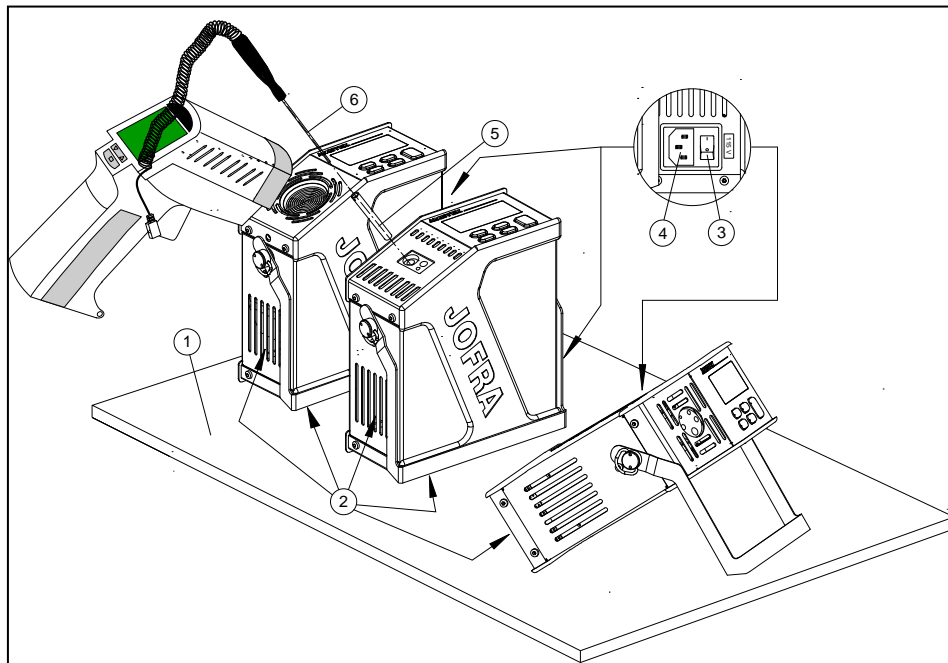

Fig. 1
**When setting up the calibrator, you must...(see fig. 1)**
- ① Place the calibrator on an even horizontal surface in the spot you intend to use it.
- ② Ensure a free supply of air to the fan.
- ③ Check that the voltage shown on the label above the power control switch is identical to the mains voltage (ETC-400 A/R only). If not, the instrument should be returned to AMETEK Denmark A/S or the distributor for replacement.
- ④ Check that the earth connection for the instrument is present and attach the cable.
- ⑤ Select an insertion tube with the correct bore diameter and place it in the largest bore of the instrument (ETC-125 A only) or use one of the bores in the well that best suits your needs. See section 3.3 for information on how to select the insertion tube/ correct bore in the well.
Insert the sensor as shown in Fig. 1, pos. 6.